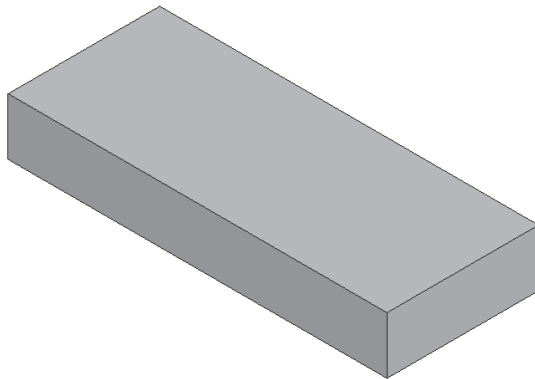

Figure 7-67 Base feature of the model
- Start a new part file and create the base feature on the top plane, refer to Figure 7-67.
1. Start a new part file and then create the base feature of the model, which is a box of 100X40X14 size. The base feature of the model is shown in Figure 7-67.